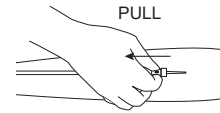

Figure 3: Withdrawing the needle
16. With one hand, grip the needle hub and the front of the NIP. Pull gently to withdraw the needle from the donor's arm (see Figure 3).